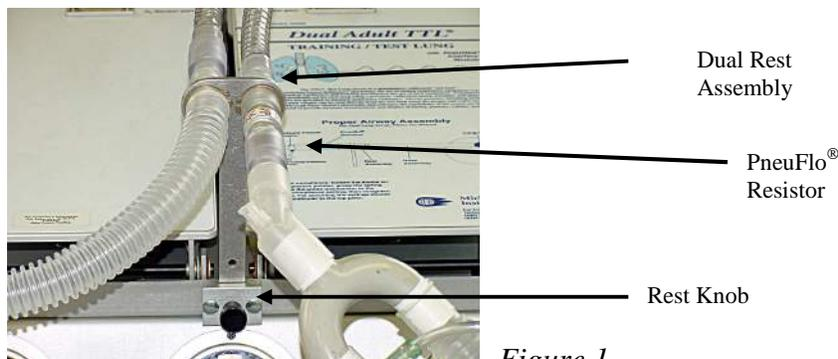

Figure 1
1. Loosen the *Rest Knob* on the front of the TTL and insert the *Dual Rest Assembly* into the holder. Lock it in place by tightening the knob. (*Figure 1*)
2. Select the desired *PneuFlo Resistor* to simulate airway resistance and connect it to the proximal (outward-facing) opening on the rest assembly. (*Figure 1*)